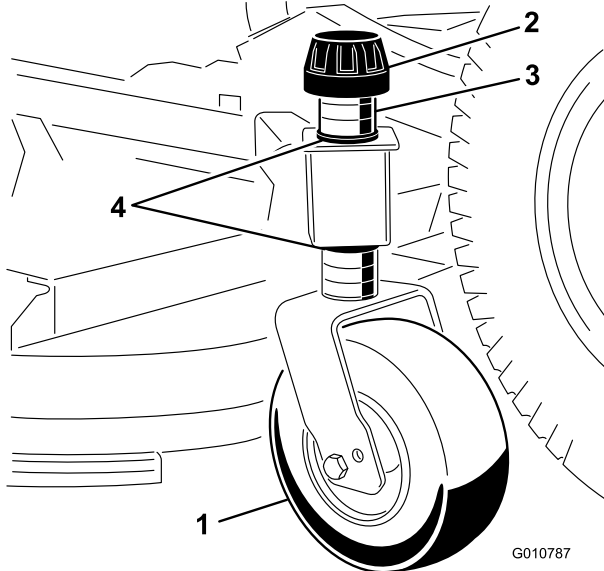

Figure 9
1. Remove the tensioning cap securing the gage wheel to the cutting unit brackets (Figure 9).